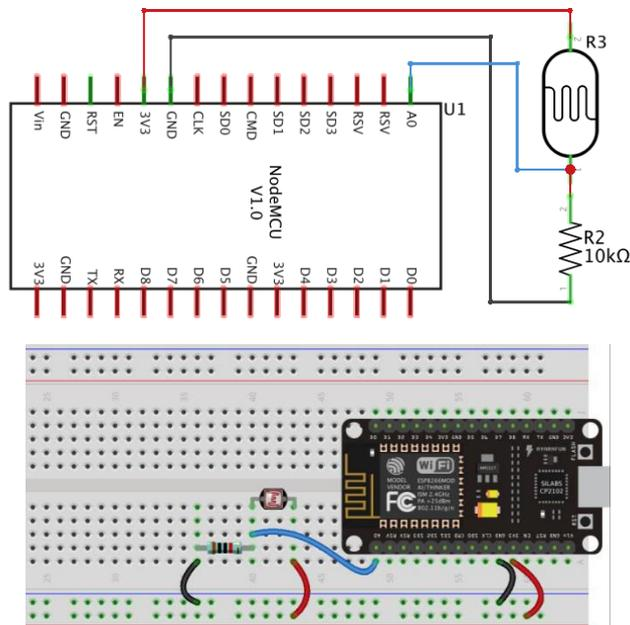

Figure C1
9. Construct the following circuit using the given kit as **Figure C1**.